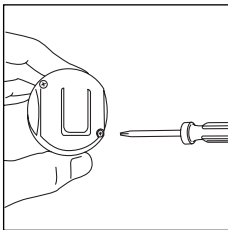

fig. 6
- Remove the back cover by screw driver (fig. 6).